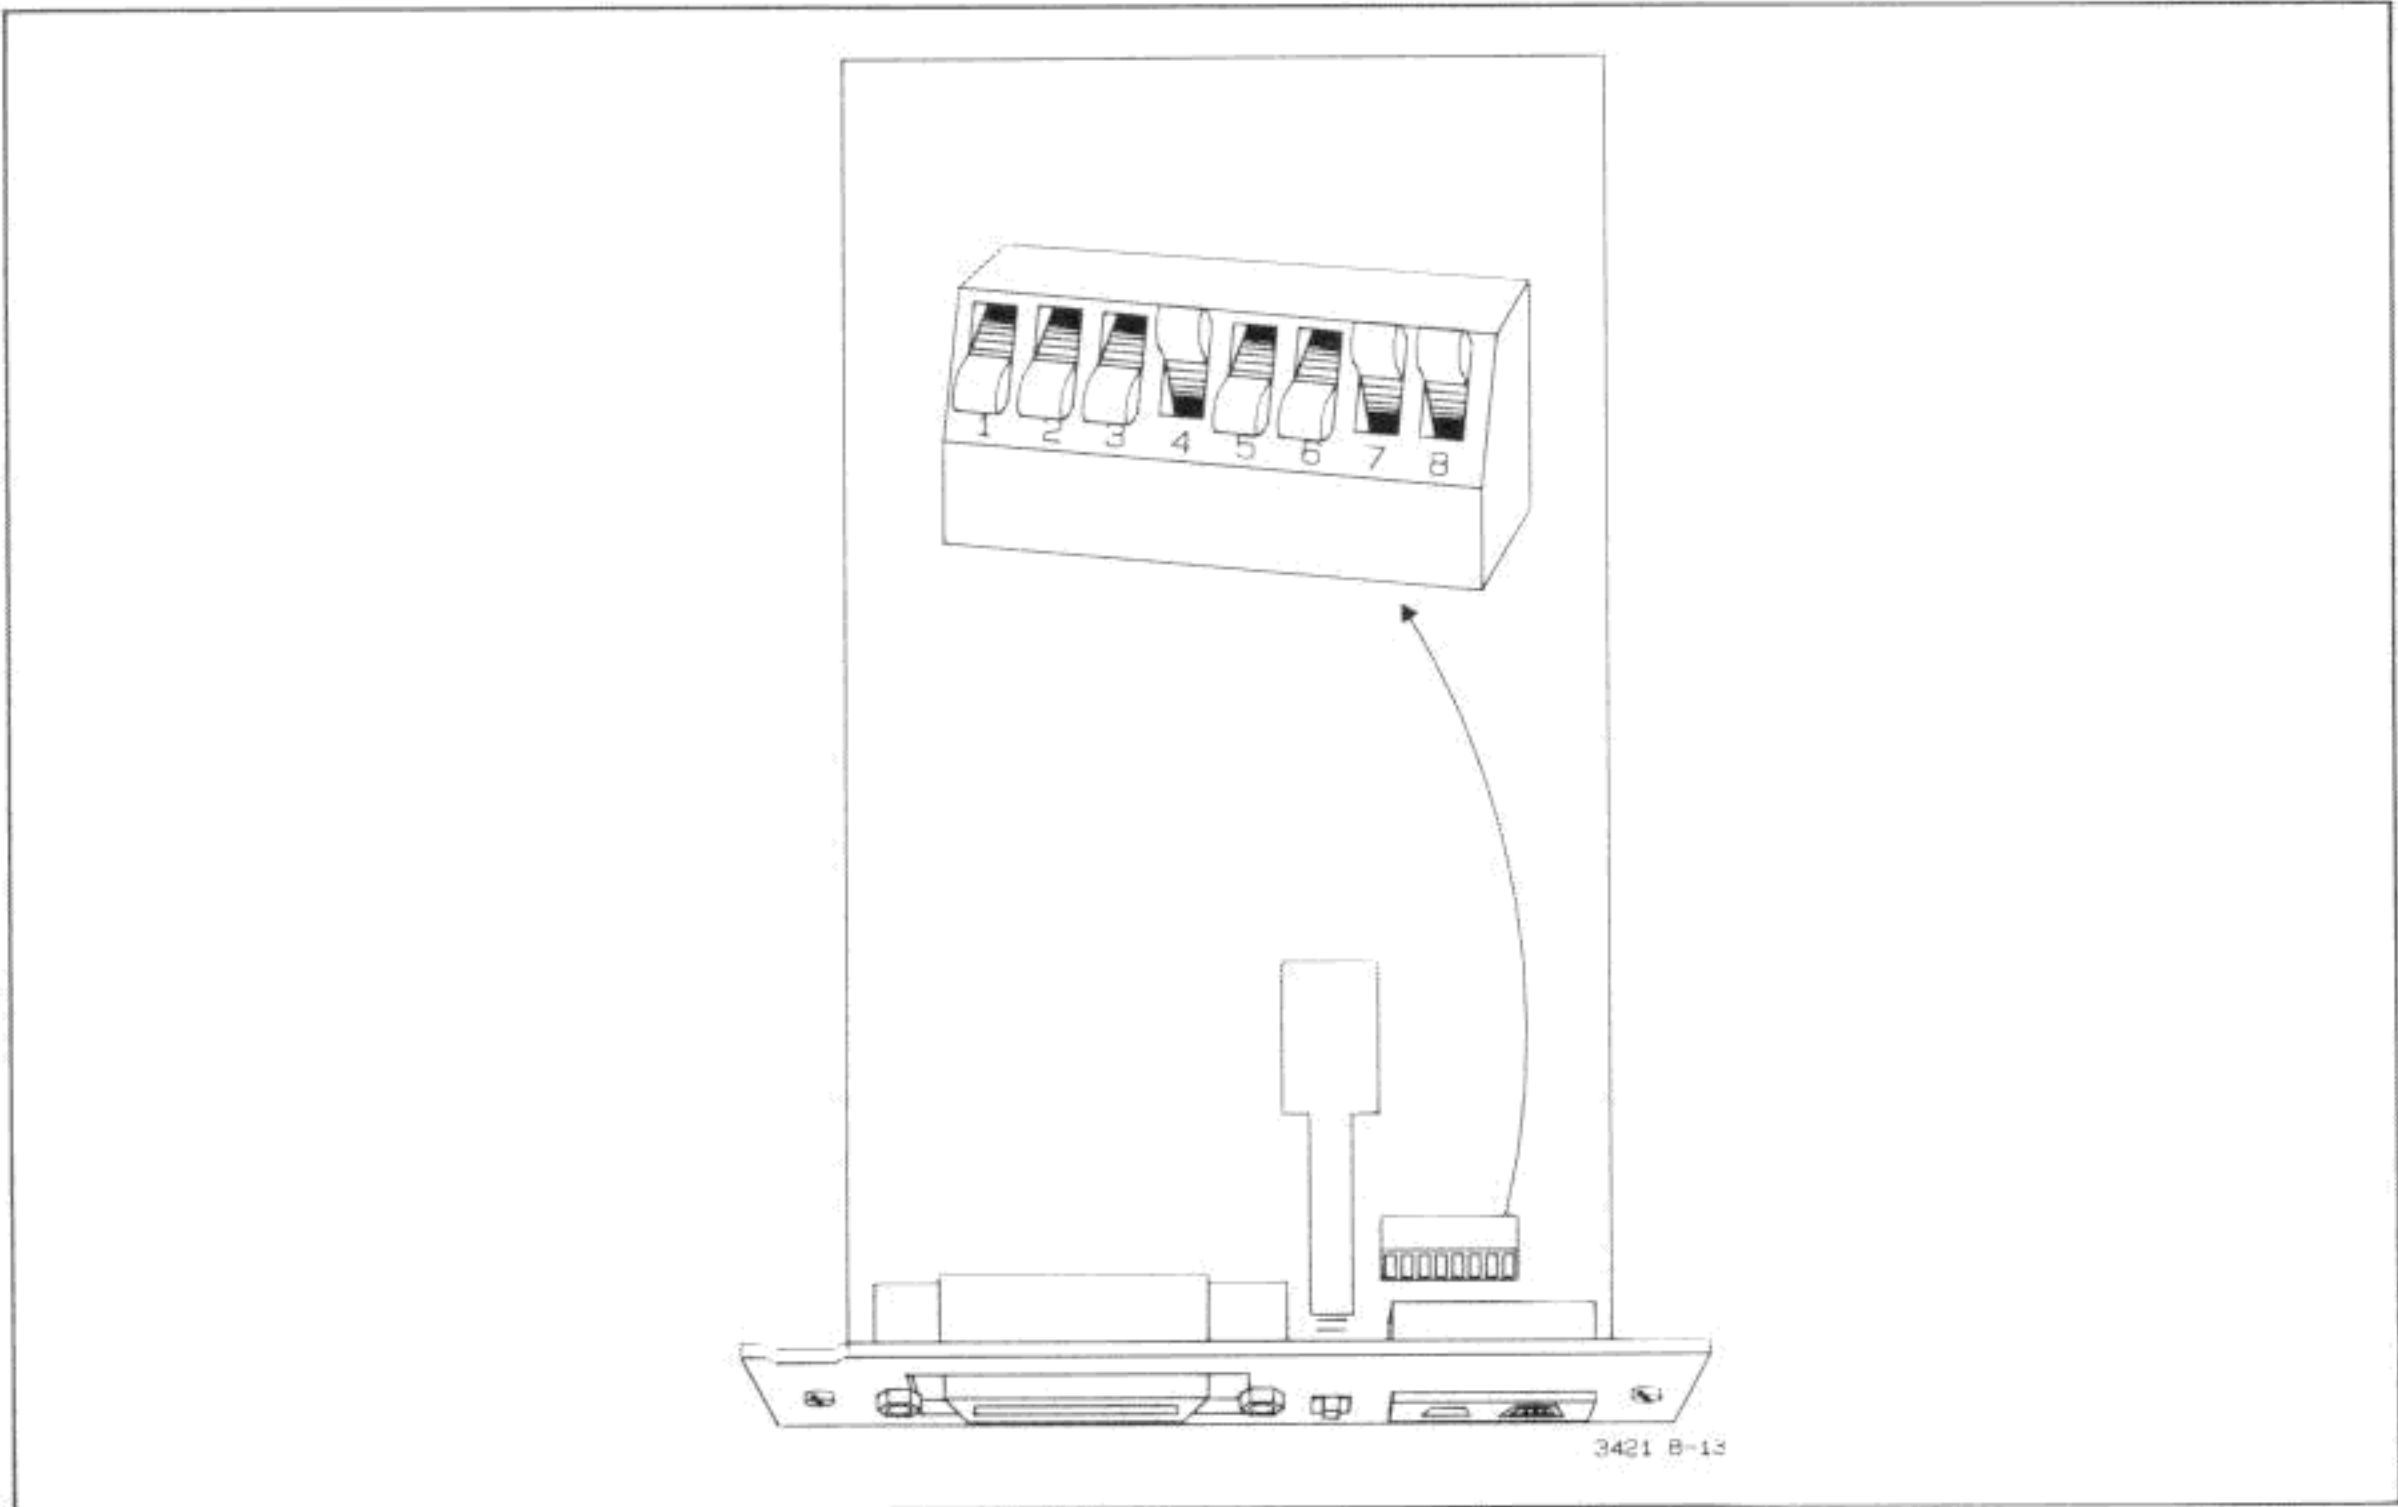

Figure 4-8-13. S802 Switch Settings for Signatures in Table 4-8-6
e. Set the S802 switch segments as shown in Figure 4-8-13 and check for the signatures listed in Table 4-8-6. If any signature is incorrect, refer to paragraph 4-8-71 to isolate the defective area. If all signatures are correct, proceed with step f.
Table 4-8-6. Signatures for Figure 4-8-13 Switch Settings (SA test #1)